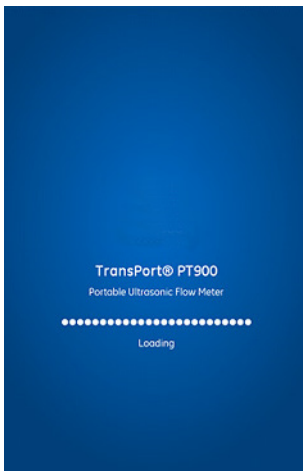

Figure 59: App loading screen
2. While the *app* is loading, you should see the initialization screen shown in *Figure 59* below.